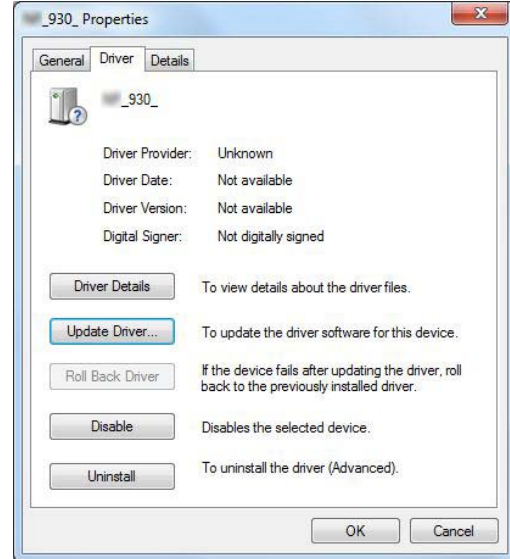

Figure 36: Update the printer driver
- Switch to the tab “Driver” and select the button “Update driver” (see Figure 36). The “Update Driver Software” Wizard will appear.